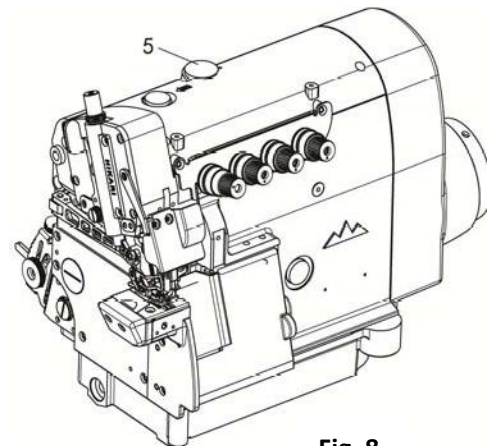

Fig. 8
5. Checking oil circulation (Fig.8)